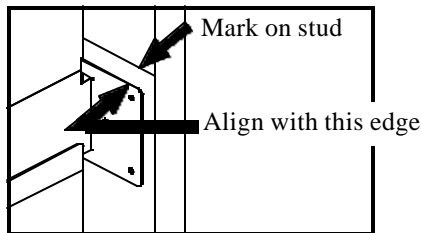
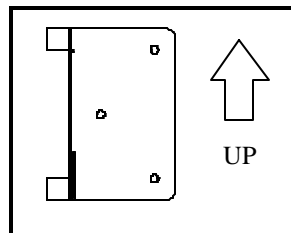
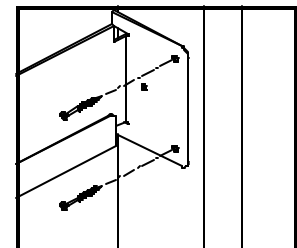

Figure 2
Figure 3
Figure 4
Step 2: Place the bottom bracket into the cavity. Align the tops of the side flanges with the marks you just made at 27-3/4" (fig. 2). Make sure the bracket is oriented with the hem facing up (fig. 3). Push the bracket back against the wall backing material on the other side of the studs. If the wall is not finished on the other side, align the bracket's feet with the back side of the studs. Screw or nail in the brackets to the studs **using the front holes on the side flanges only** (fig. 4). Repeat this step for any additional brackets above aligning them with the marks you have made on the studs.